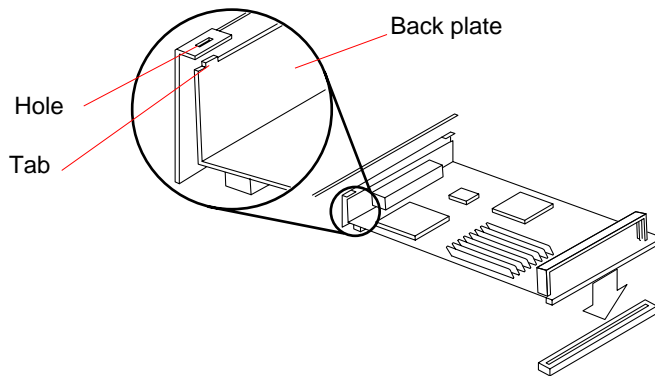
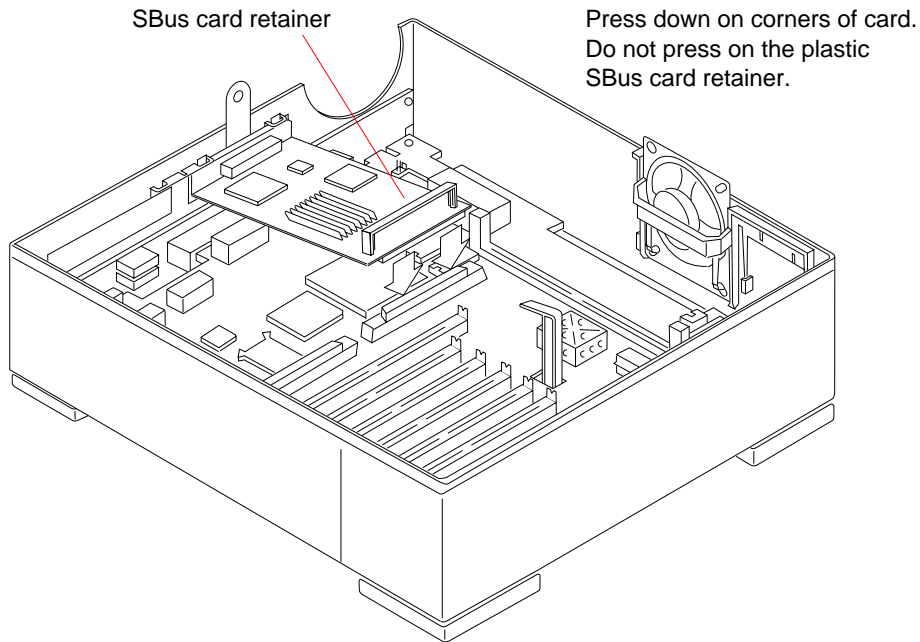

FIGURE 11-3 Positioning the SBus Card
FIGURE 11-4 Connecting the SBus Card
5. Align the mounting plate of the new SBus card with the rectangular opening in the system unit’s back panel (see FIGURE 11-3 and FIGURE 11-4).
Align the connector on the card with the SBus slot on the main logic board. Press gently on the corners of the SBus card until the connection is secure (see FIGURE 11-4). *Do not force the card.*